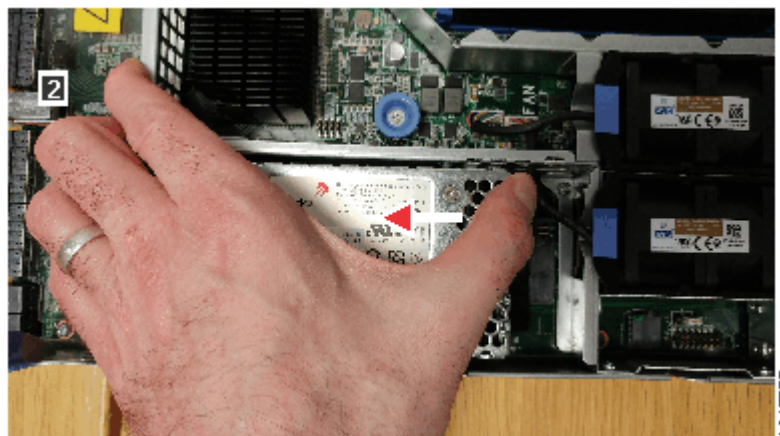

Figure 75. Sliding the node battery out of its position
7. Slide the node battery toward the latch until it stops, as shown in Figure 75 on page 126.